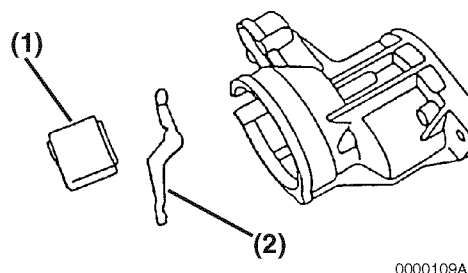

Figure 11-8
8. Disassemble the dust cover (**Figure 11-8, (3)**) and shift the lever (**Figure 11-8, (4)**) from the gear housing.